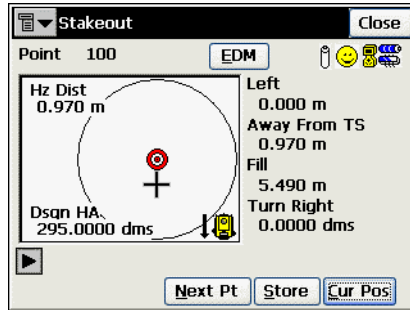

Figure 7-6. Stakeout
- For TS: sight the prism. On the *Stakeout* screen (Figure 7-6), use the **Cur Pos** button to take a measurement and then show the current position relative to the design point. Use the **EDM** button to select distance measurement mode: Coarse, Fine or Coarse Tracking. The **Meas** button should be tapped once the current location is close enough to the desired point. Tapping the **Meas** button causes a measurement to be taken, and the computed coordinates to be stored to a point. Tap the **Next Pt** button to stakeout the next point in the data set.